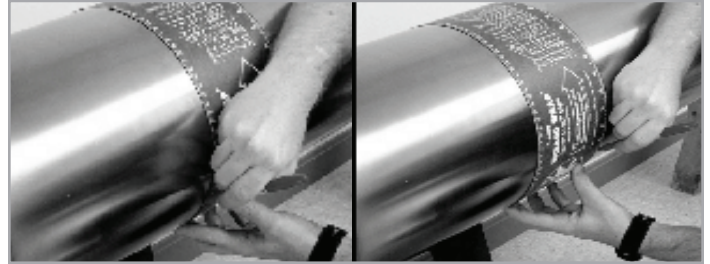

Figure 29: Marking circumferential lines on the pipe
2. Tightly wrap the layout wrap once around the entire pipe and line up the edges. Using the wrap as a template guide for marks, mark scribe lines around the entire diameter of the pipe, as shown in Figure 29 below.